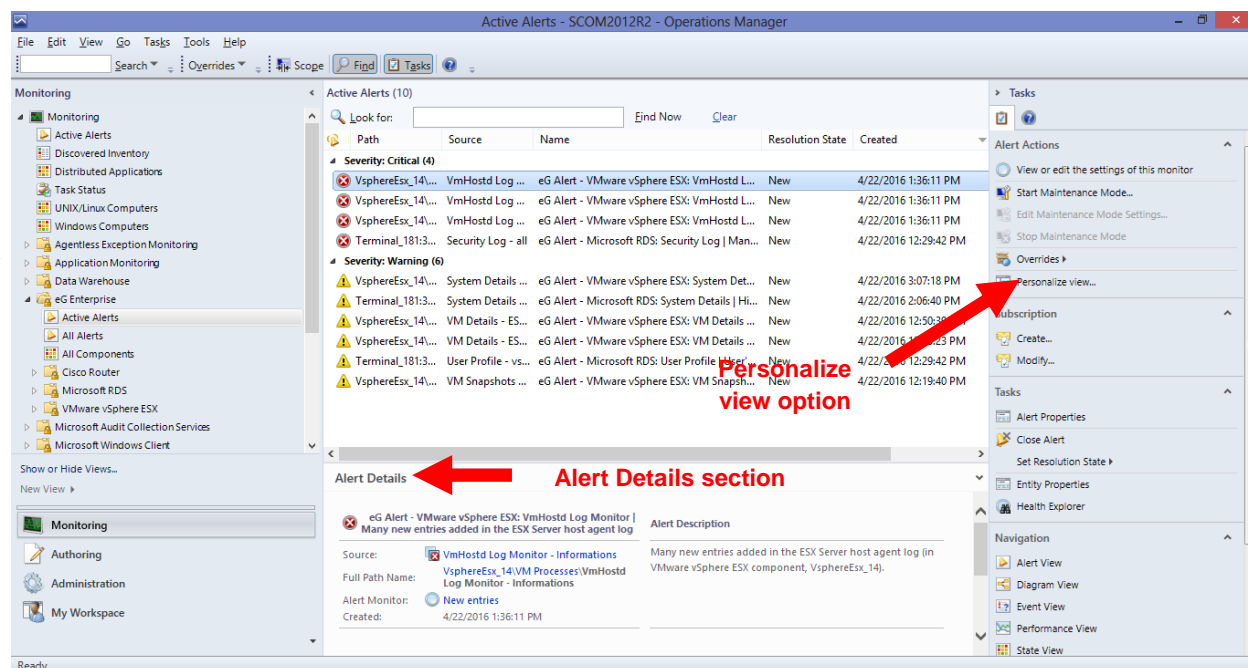
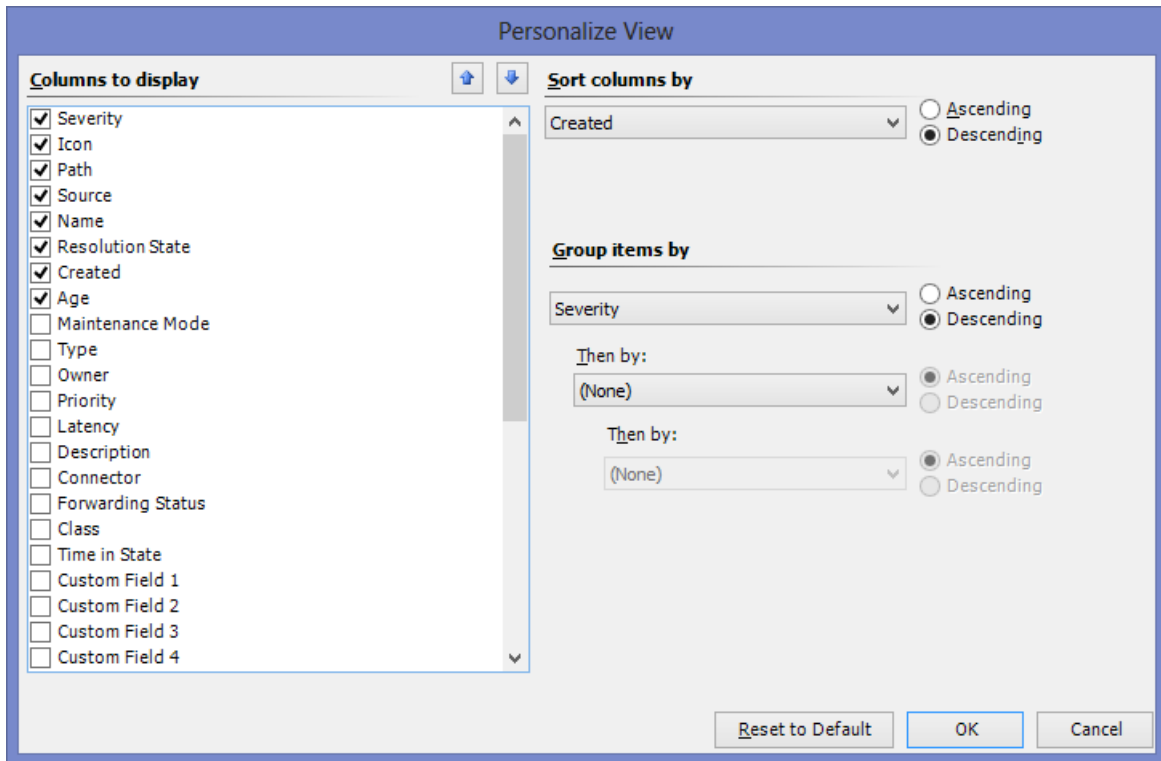
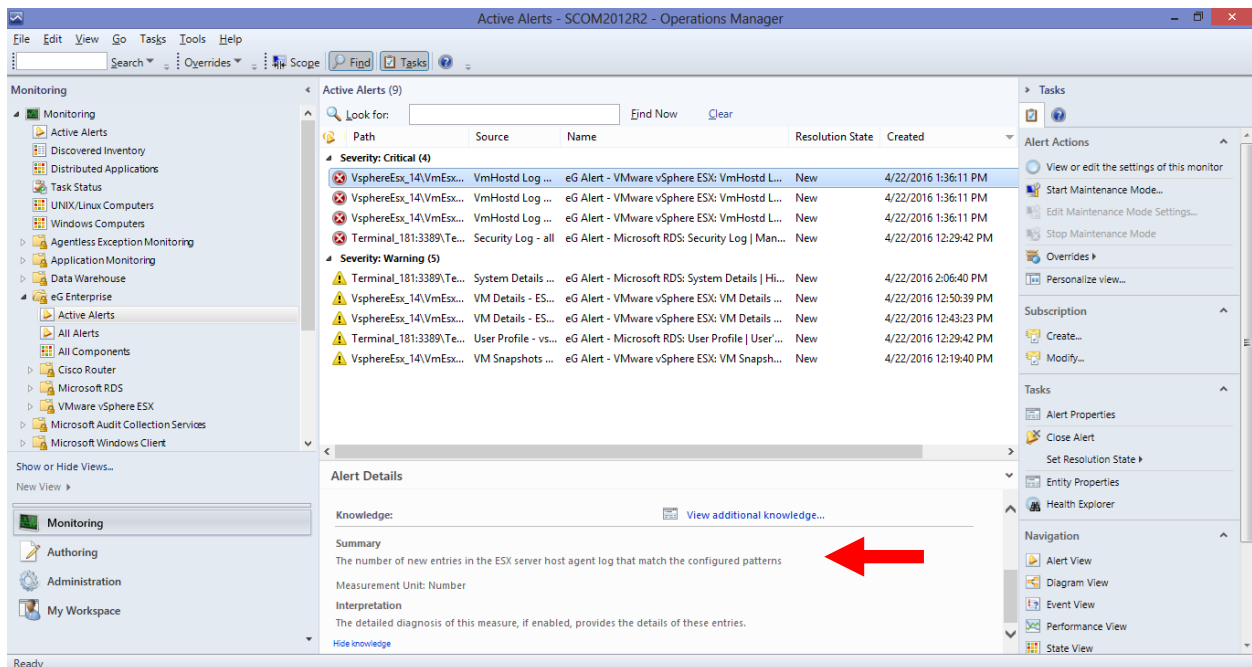

Figure 3.1: The tree-structure displaying a new 'eG Enterprise' node
Figure 3.2: Personalizing the Active Alerts view
Figure 3.3: Scrolling down the Alert Details section to View additional knowledge
This example takes the case of a target environment comprising of an eG manager that is monitoring a VMware vSphere/ESX server, a Cisco router, and a Microsoft Terminal server. Soon after the eG manager is integrated with the SCOM server, login to the SCOM console. Figure 3.1 will then appear. Post the integration, the tree-structure in the left pane of Figure 3.1 will display a new **eG Enterprise** node.
Though the SCOM console categorizes both the **Major** and **Minor** eG alerts as **Warnings**, you can differentiate between the two by instantly launching the eG monitoring console from the SCOM console. To do so, just click on the **Diagnose using eG** option indicated by Figure 3.1.
2. You can, if you so need, customize your default **Active Alerts** view to include more columns or exclude one/more default columns. To achieve this, click on the **Personalize view** option in the **Actions** pane to the far right of Figure 3.1. Figure 3.2 will then appear. Select one/more check boxes from the **Columns to display** section to add more information to the **Active Alerts** view, or deselect one/more check boxes to remove the alarm details that pre-exist. Click the **OK** button in Figure 3.2 to save your customizations.
- Once back in the **Active Alerts** view, you can click on a specific critical alert/warning to view the alert details more clearly in the **Alert Details** section indicated by Figure 3.1. Scrolling down the contents of the **Alert Details** section will reveal a **View additional knowledge** link (see Figure 3.3).